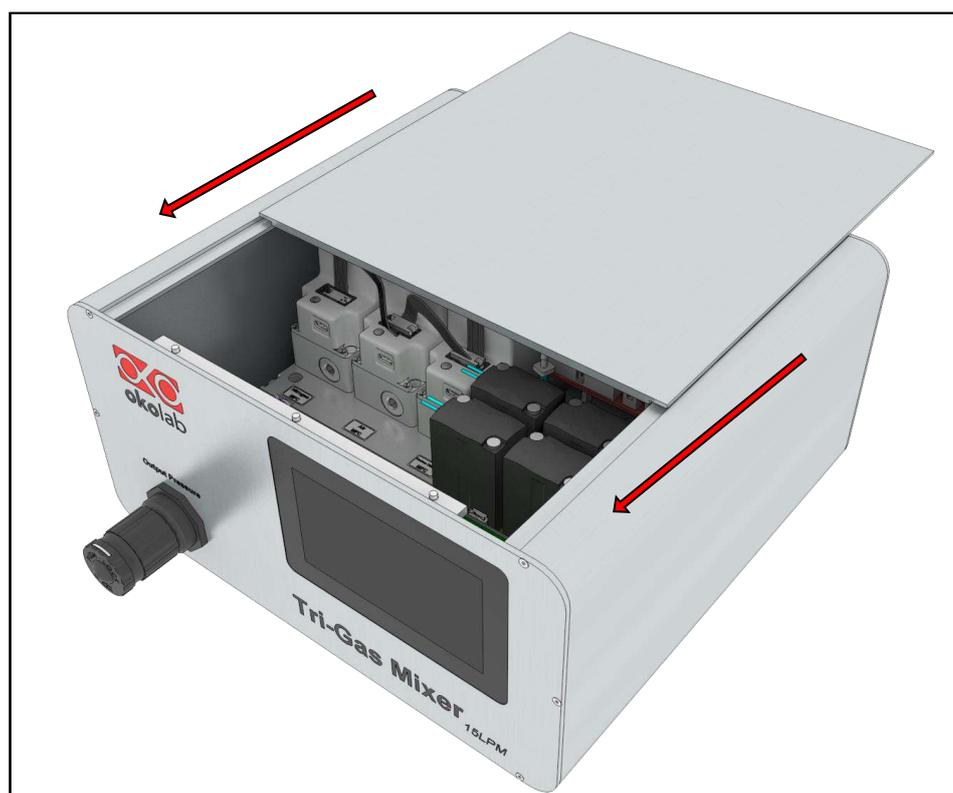

Figure 115. Cover repositioning
6. Once you have replaced CO2-O2 Module, slide and put the cover of the Tri-Gas-Mixer (see Figure 115).